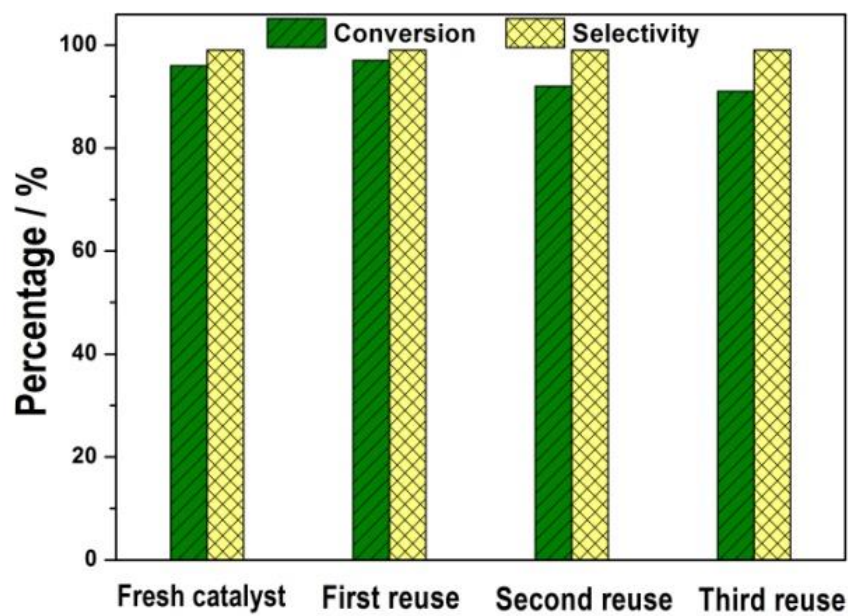

Fig. S11 Recycle of the Eu-CPs. Reaction conditions: 5 mg catalyst, 0.25 mmol benzaldehyde, 0.5 mmol Me₃SiCN, 1.5 mL CH₂Cl₂, room temperature, 6 h, under Ar.
12. **Fig. S11** Recycle of the Eu-CPs.